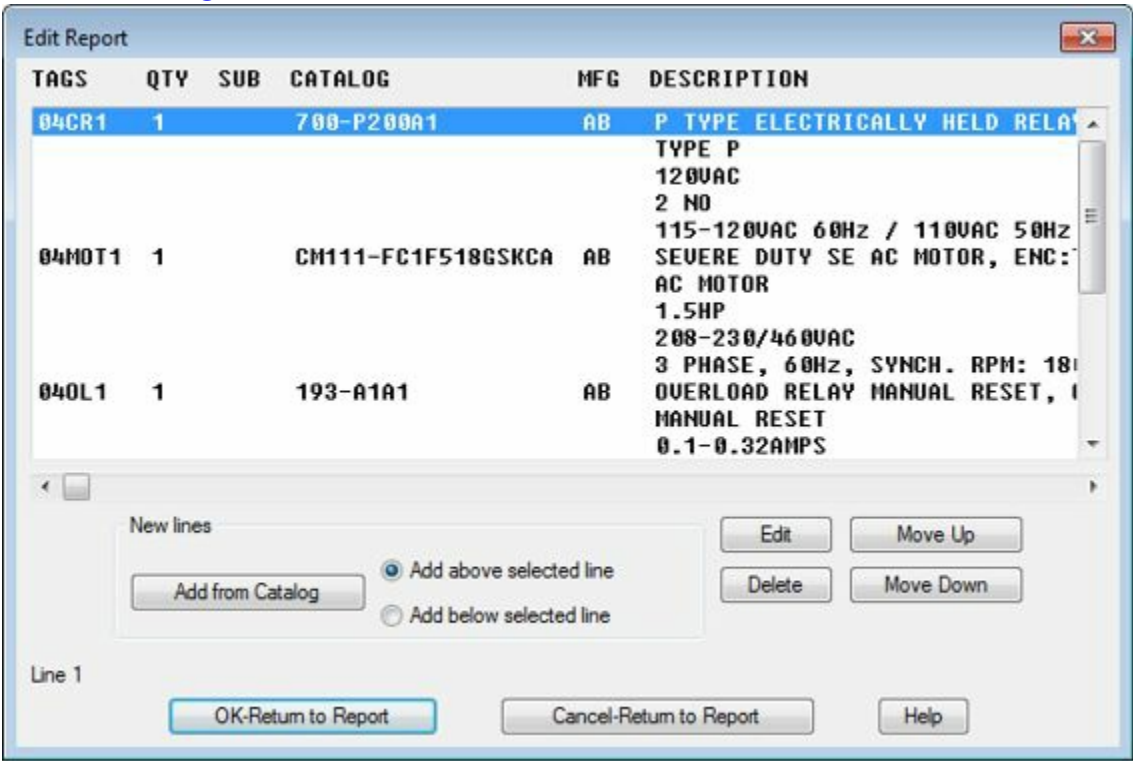

Figure-6. Edit Report dialog box
- Click on the **Edit Mode** button to edit the table data. The **Edit Report** dialog box will be displayed; refer to Figure-6.